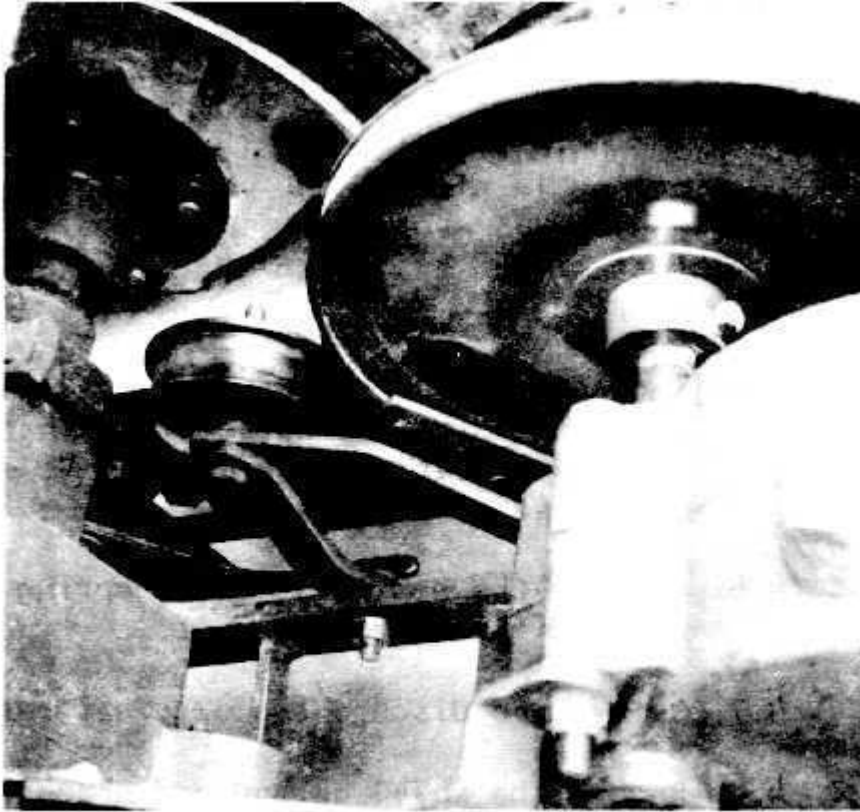

FIG. 2
4.9 Refer to Fig. 2 and install the new brace #104098 between the tiller hitch #103629 and the end of the original idler arm #103632. Install the bolt in the end hole of the brace with the nut on the inside next to the hitch. (The second hole is provided for additional adjustment if required for long belts and to compensate for belt stretch that may occur over a period of time.)
4.10 Refer to Fig. 2 and reinstall the #6740 flat idler and spacer using the 3/8-16x2" bolt through the brace and idler arm with a spacer on the inside of the pulley and the nut on the outside.